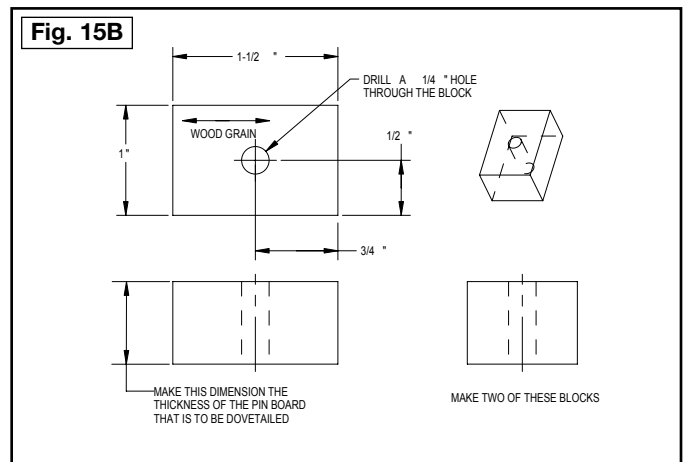

Fig. 15B
**Step 2** - Make the offset clamping block. Make a counterbore for the threaded T-nut (Fig. 15B).